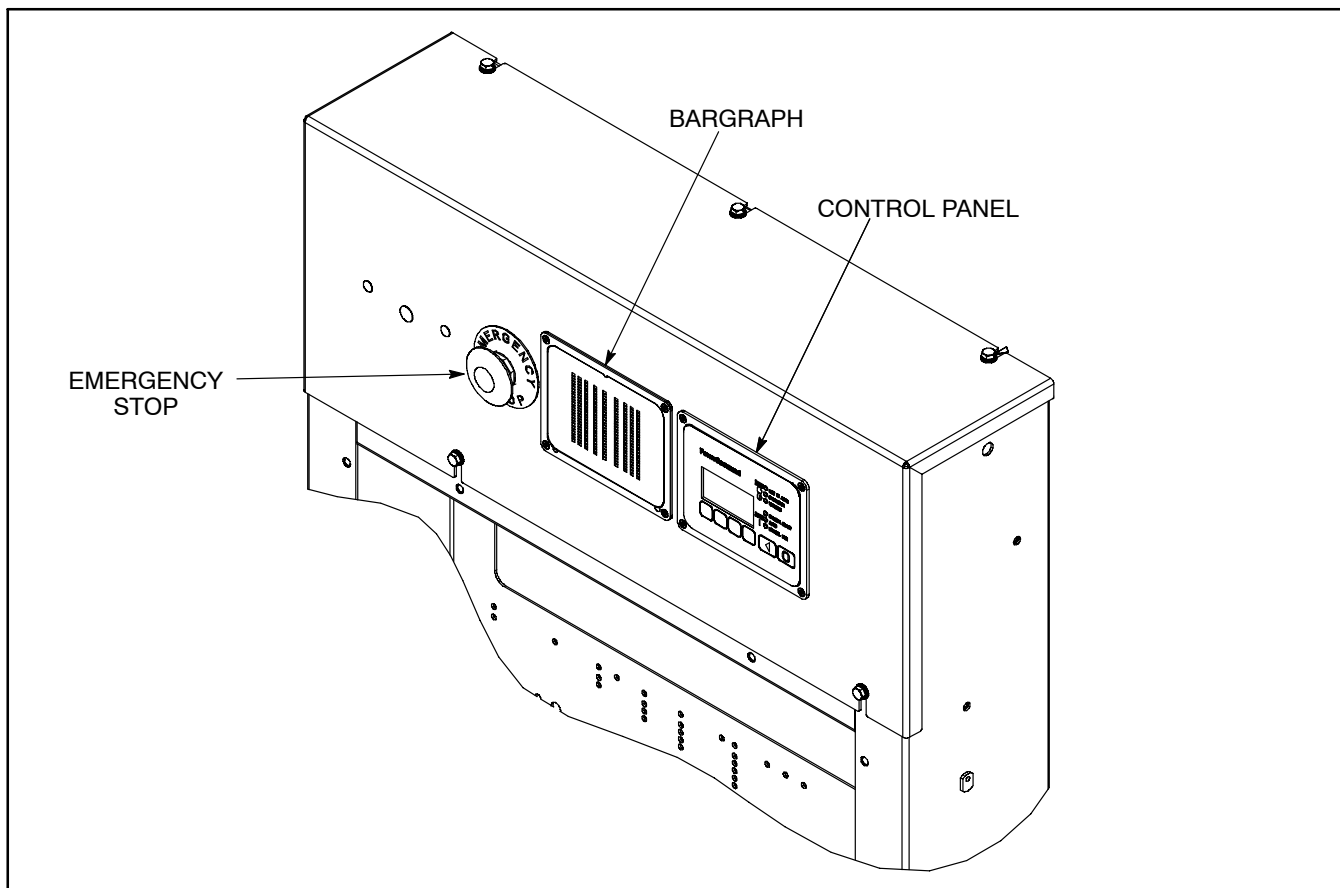

FIGURE 3. BARGRAPH INSTALLATION
2. Use hardware included in this kit to secure the bargraph to the control cover, as shown in Figure 3.